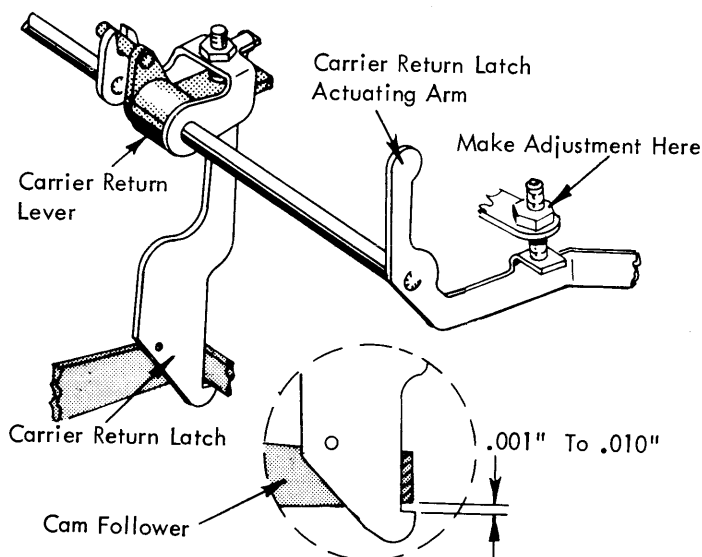

FIGURE 134. *Carrier Return Latch Height (723 And 725)*
- c. Carrier Return Latch Actuating Arm Adjusting Screw (latch height) - With the carrier return cam latched in the rest position, adjust the screw so that the carrier return latch will pass under the cam follower by .001" to .010" (Fig. 134).